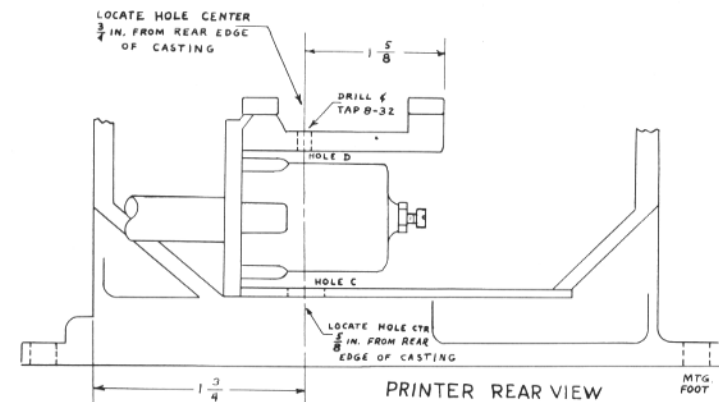

Fig. 3
5. Locate and drill a screwdriver clearance hole C about  $\frac{3}{8}$  in. dia. in the location shown in Fig. 3. **WARNING:** Catch all metal chips in this and other operations to keep them out of the mechanism.
6. With a tap drill, reach through hole C and drill hole D of Fig. 3. Tap this hole 8-32. The screw which goes in this hole is the pivot for a crank arm.